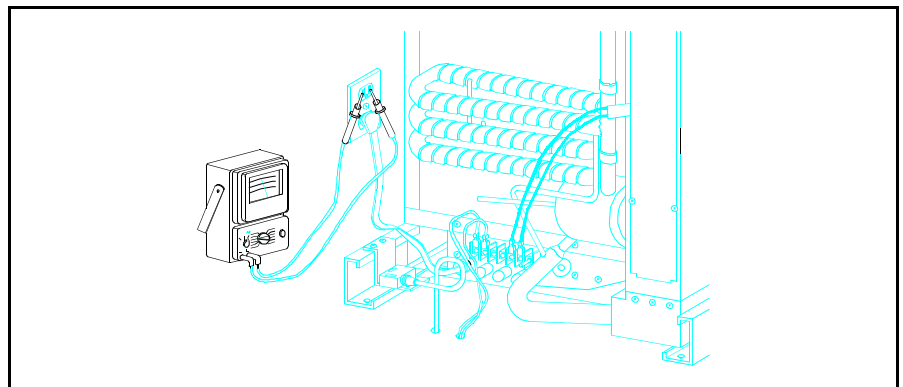

Figure 3.32 Check for AC Supply Voltage
1. If the refrigerator is not functioning on AC, the first step is to check incoming supply voltages as shown in Figure 3.32. The minimum is 108 Volts AC.